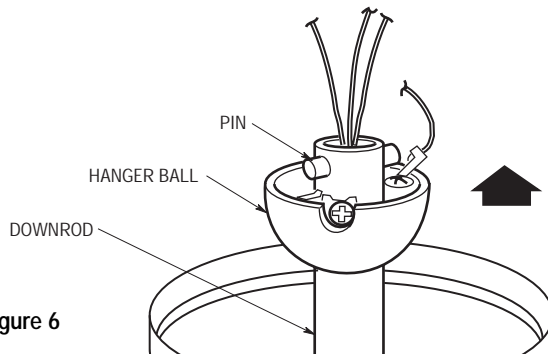

Figure 6
- 9. Reinstall the hanger ball on the downrod (Figure 6) as follows. Route the motor leads through the hanger ball and slide the hanger ball over the downrod. Install the pin through the holes at top of the downrod and slide the hanger ball up the downrod, aligning the ball so the pin is captured in the groove in the top of the hanger ball. Pull the hanger ball up tight against the pin and securely tighten the setscrew in the hanger ball. A loose setscrew could create fan wobble.